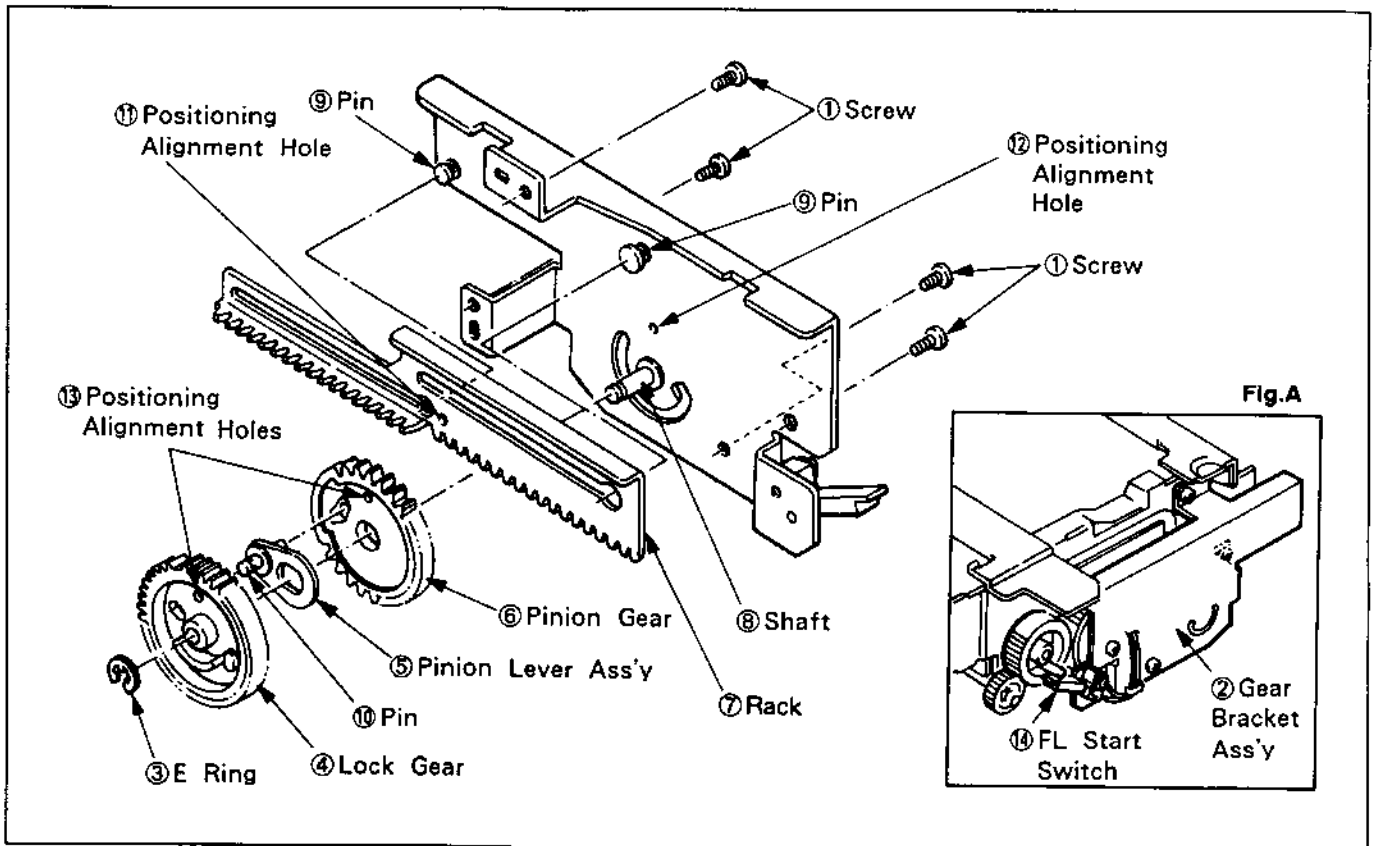

Fig. 2-2-2. Gear Bracket Ass'y
2-2-2. GEAR BRACKET ASS'Y (See Fig. 2-2-2.)
Also align the positioning alignment holes ⑬ of PINION GEAR and LOCK GEAR with the positioning alignment hole ⑫ of GEAR BRACKET by referring to Fig. 2-2-2. After mounting them, check to be sure that FL START SWITCH ⑭ is in the ON state shown in Fig. A.